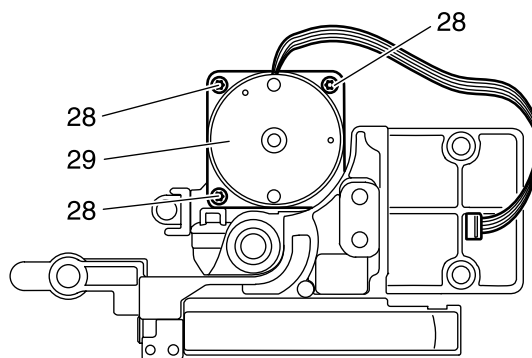

**Fig. 15**
5. Unscrew the three Torx screws 28 (Fig. 15).
4. Apply the three square nuts into the motor holder (Fig. 15).
7. Loosen the three Torx screws 28 by just 1/8 of a turn (Fig. 15).